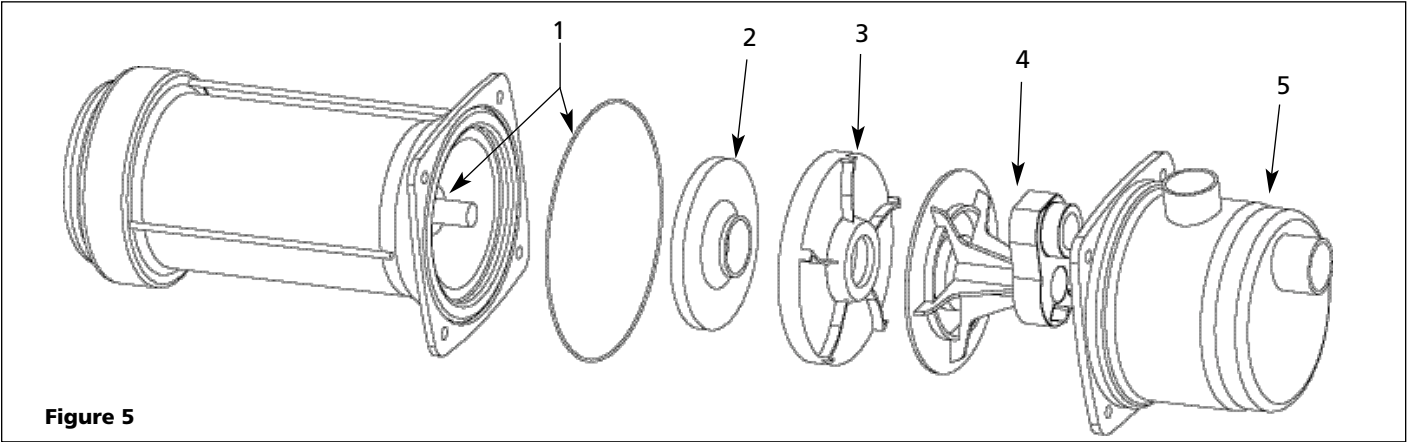

Figure 5
**See Figure 5 for replacement parts.**